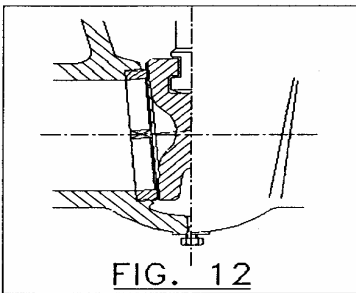

FIG. 12
- *Figure 12* ► it represents a plug of drain connection its location will be done according to the customer's instructions .